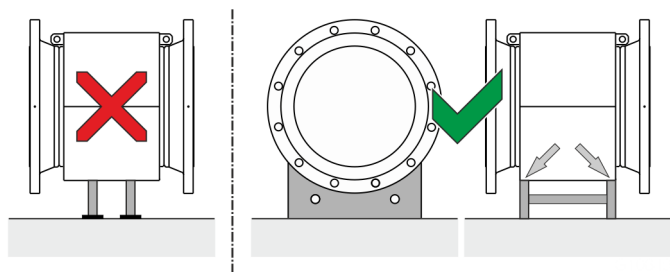

Figure 10: Support for nominal diameters greater than DN 400
- Place the supports at the edge of the sensor housing (see arrows in **Figure 10**).